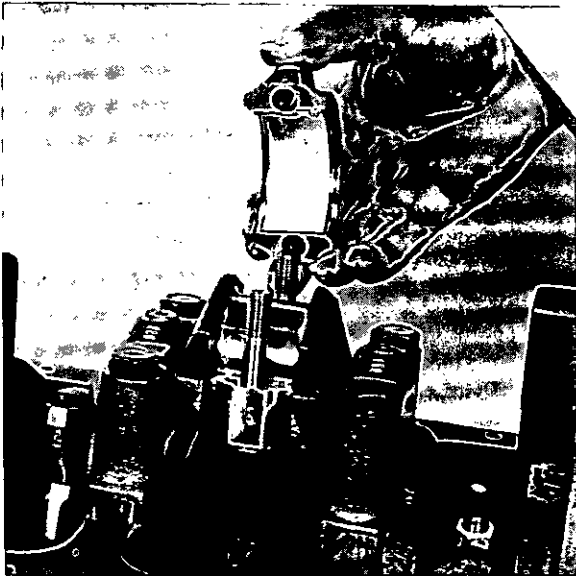

Fig. D.1
5. Remove connecting rod cap and both top and bottom half bearing shells (Fig. D.1).